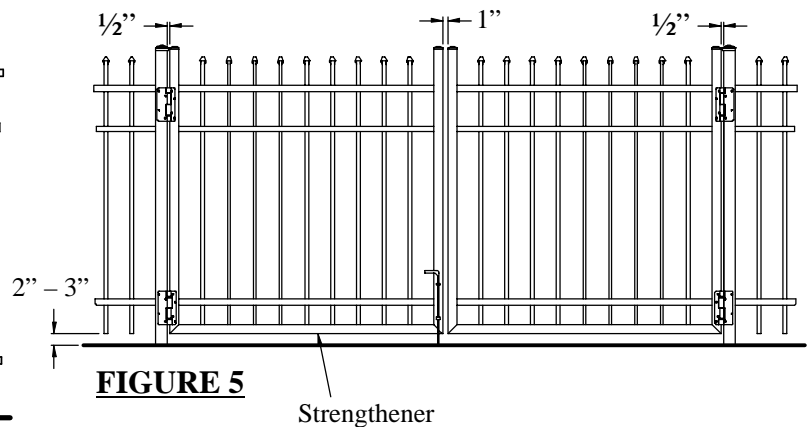

FIGURE 5
- 2.3. For a double drive gate installation set the gate opening 2" wider than the actual width of the two gates. (Example: Two 36" wide gates will actually measure 70" wide overall and will require the opening to be 72" wide.) See Figure 5.
- 3.4. Center the gate into the opening and attach to the hinges in the same manner as the posts. Double drive gates must have the diagonals running as shown in Figure 5.